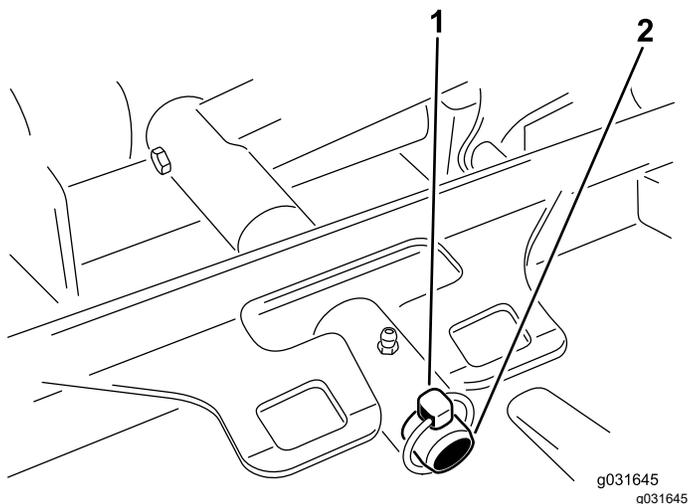

Figure 64
- Remove the lynch pin or retaining nut securing the cutting unit carrier frame to the lift-arm-pivot pin (Figure 64).
- Slide the cutting unit carrier frame onto the lift-arm-pivot pin and secure it with the lynch pin or retaining nut (Figure 64).